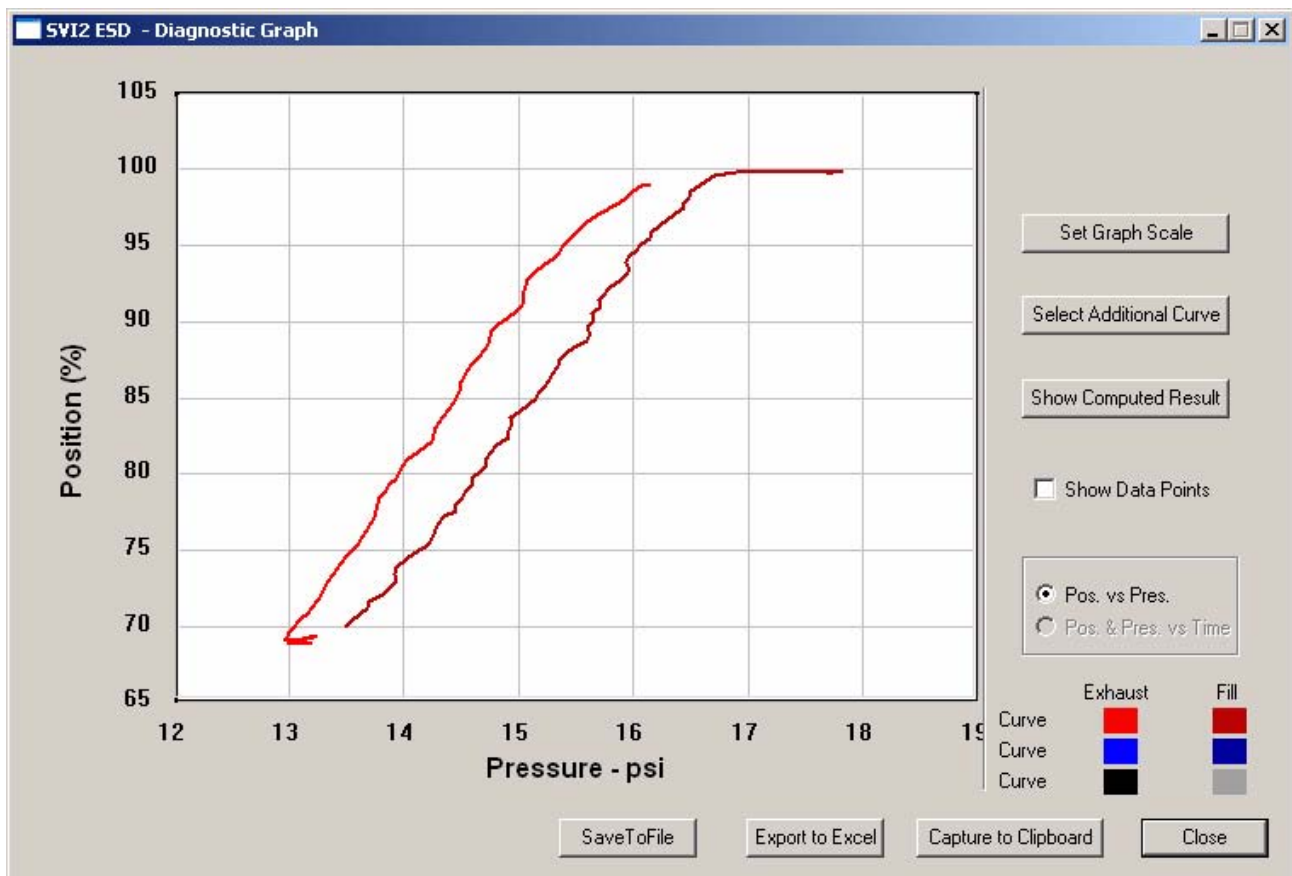

Figure 185 Extended Signature Diagnostics Graph
10. After you close the Extended Signature Diagnostics dialog, ESDVue will display the Extended Signature Diagnostics graph shown in Figure 185 below.